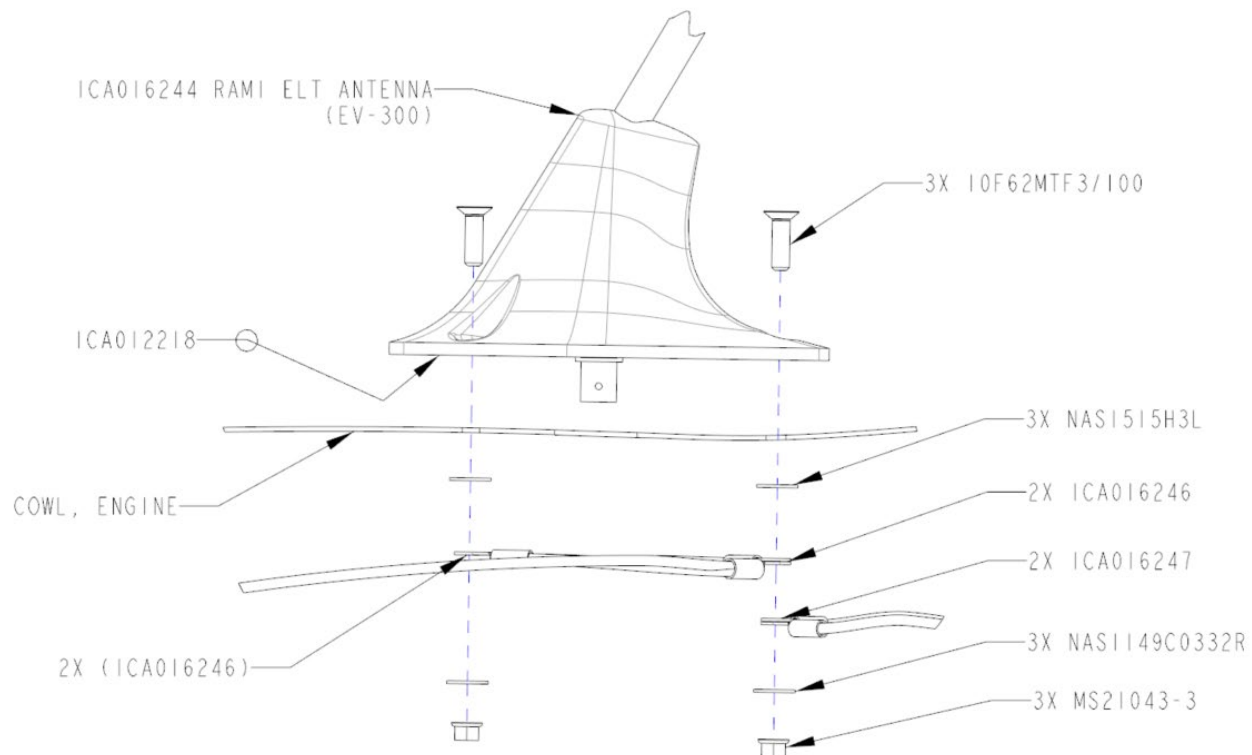

Figure. 3 Antenna Installation Stack-Up
- a. Assemble Antenna, Screws (10F62MTF3/100), nylon Washers (NAS1515H3L), Ground Planes (ICA016246 and ICA016247), Washers (NAS1149C0332R), and Nuts (MS21043-3) per Figure 3.